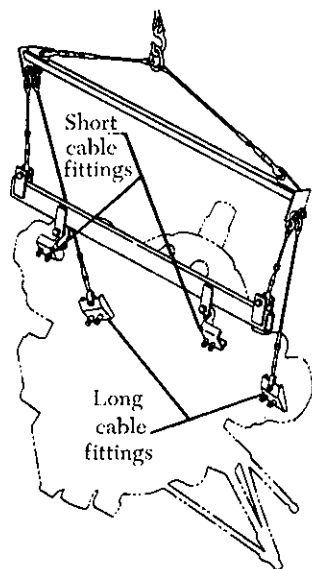

FIGURE 8-24. Special sling used for hoisting helicopter QECA.
- (1) Attach the engine lifting sling (figure 8-24). In this example, attach the two short cable fittings of the sling to the forward surface of the intake rocker boxes of Nos. 2 and 9 cylinders, and the two long cable fittings of the sling to the forward surface of the intake rocker boxes of Nos. 4 and 7 cylinders. Attach the sling to a hoist of at least a 2-ton capacity.
- (2) Raise the hoist to apply a slight lift to the QECA. Loosen both engine mount lower attachment bolt nuts before leaving the upper attachment bolts.
- (3) Remove the bolts from the sway braces and remove both engine upper attachment bolts. Then remove both engine mount lower attachment bolts and remove the QECA from the helicopter. Mount the power package in a suitable workstand and remove the sling.